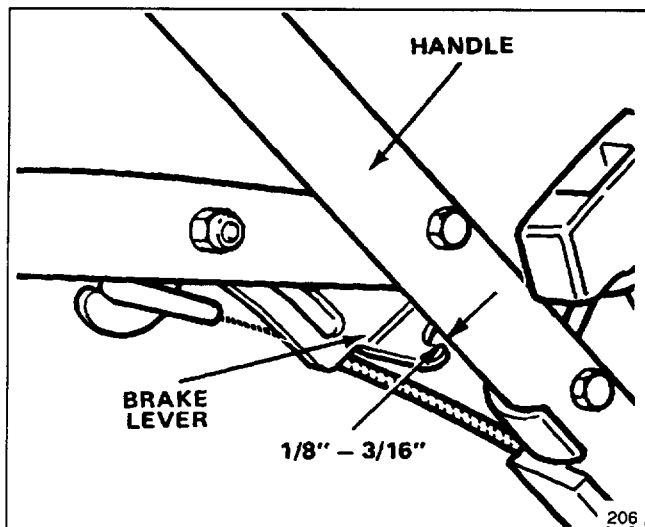

Figure 29
2. CHECK ADJUSTMENT (Fig. 29)—Move control bar toward handle until slack in wire is removed. Gap between brake lever and handle must be  $1/8''$ – $3/16''$ . See step 3 for adjustment.